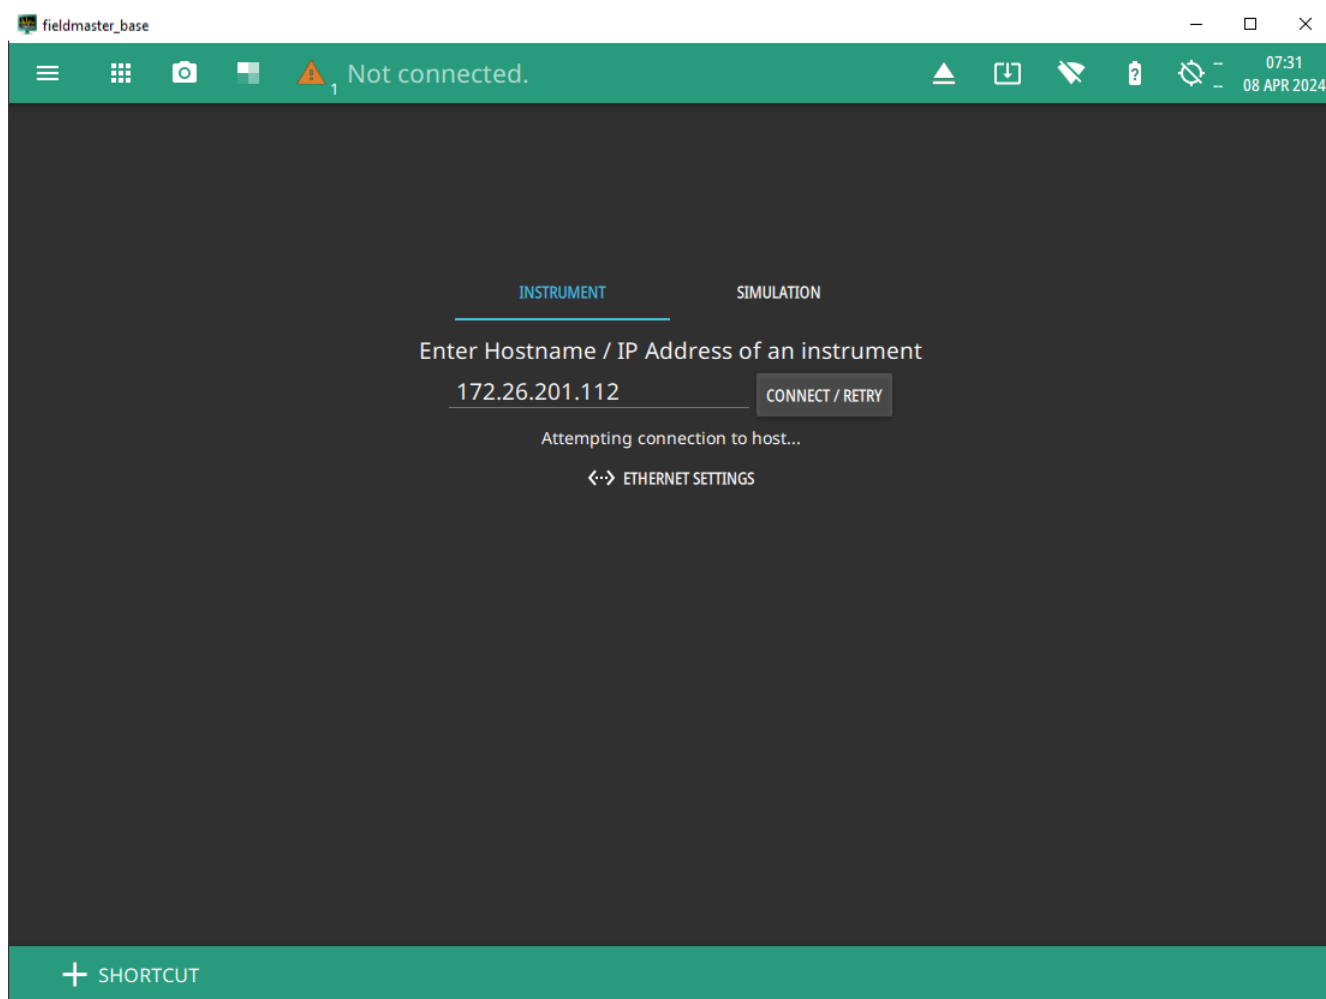

Figure D-2. Connecting to Instrument using Hostname/IP Address
2. Open Anritsu Remote Tool software on your PC and enter either Hostname/IP address in the field provided under the INSTRUMENT tab. See Figure D-2.